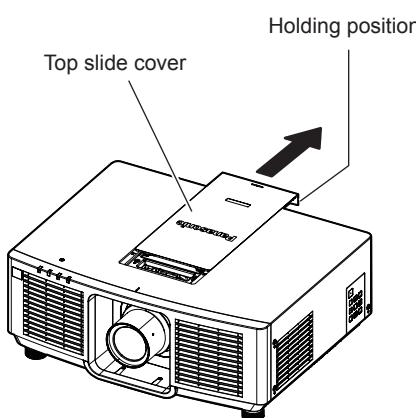

Fig. 1
- 1) **Slide the top slide cover. (Fig. 1)**